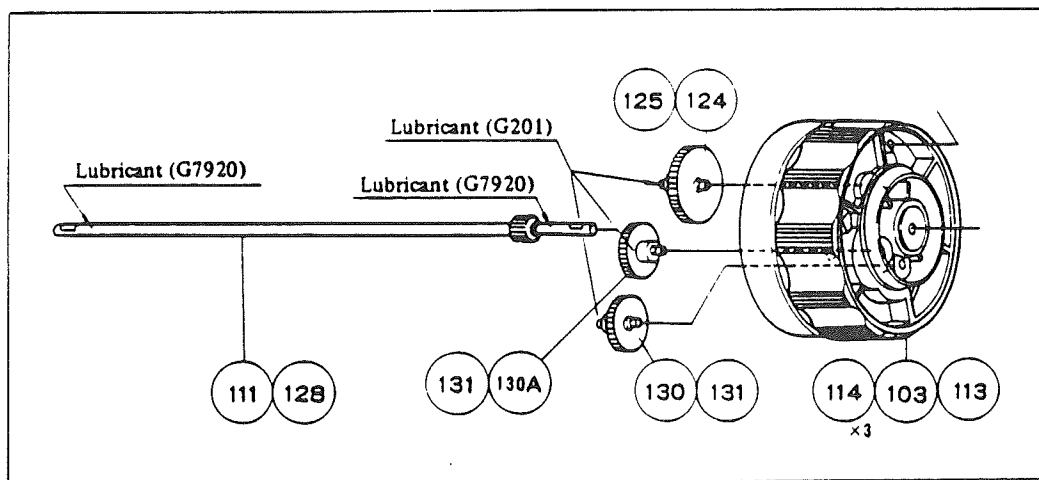

Fig. 25
- 3) By removing (103) (together with bush (113) and bearing (114)), take off fine focus shaft (111), spur gears (128), (124) and (125), gear shaft (131), spur gear (130A) and gear shaft (131).
(LABOPHOT: Spur gears (111) and (128), (124) and (129)) (Fig. 25)
- 4) Turn the left coarse focus knob (104) and coarse focus gear case (107), counterclockwise, to remove (104) (combined with bush (115)) from coarse focus shaft (110).